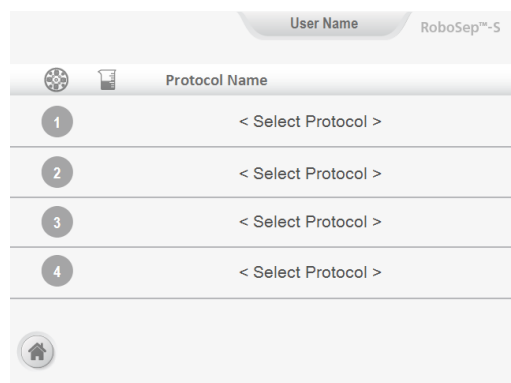

Figure 13. Run Samples Screen
3. Once homing is complete, the Run Samples screen is visible on the touchscreen (Figure 13). Continue with RoboSep™-S operations.